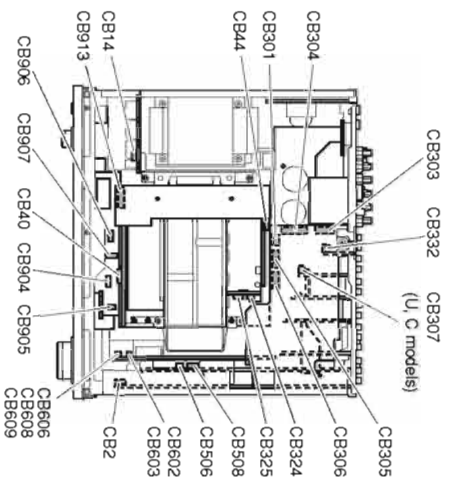

Fig. 3
- c. Remove CB2, CB14, CB904 ~ CB907, and CB913. (Fig. 3)
- c. CB2、CB14、CB904～CB907、CB913を外します。(Fig. 3)
- c. Remove 1 screw (⑪) and 4 screws (⑫). (Fig. 3)
- d. Remove CB301 and CB303 ~ CB306. (Fig. 3)
- c. ⑪のネジ1本、⑫のネジ4本を外します。(Fig. 3)
- d. CB301、CB303～CB306を外します。(Fig. 3)
- d. Remove CB40, CB44, CB307 (U, C models), CB325, CB332, CB506, CB508, CB602, CB603, CB606, CB608 and CB609. (Fig. 3)
- b. Remove CB324. (Fig. 3)
- d. CB40, CB44, CB325, CB332, CB506, CB508, CB602, CB603, CB606, CB608, CB609を外します。(Fig. 3)
- b. CB324を外します。(Fig. 3)